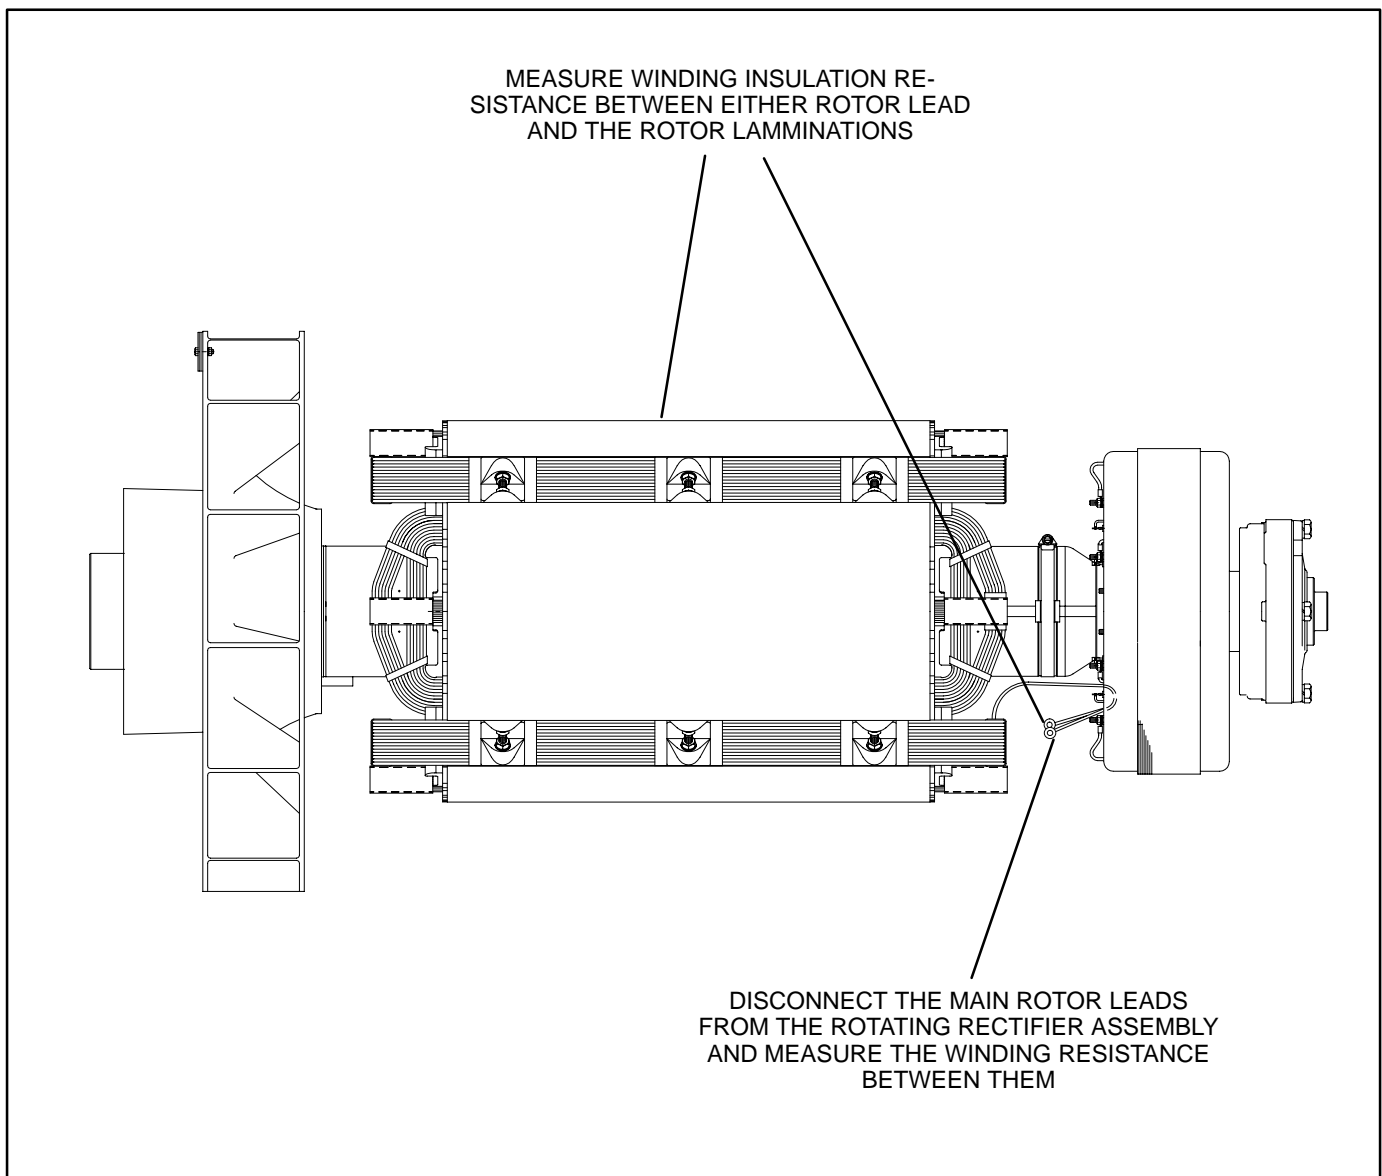

FIGURE 4-5. TESTING THE MAIN ROTOR
**Testing Winding Resistance:** Disconnect the two leads of the main rotor from the terminals on the rotating rectifier assembly. See Figure 4-5. Measure electrical resistance between the two leads with a Wheatstone bridge or digital ohmmeter. Replace the rotor if the resistance is not as specified in Table 4-2. Connect the rotor leads and torque the terminals to 23 in-lbs (3.3 N-m) when reassembling.